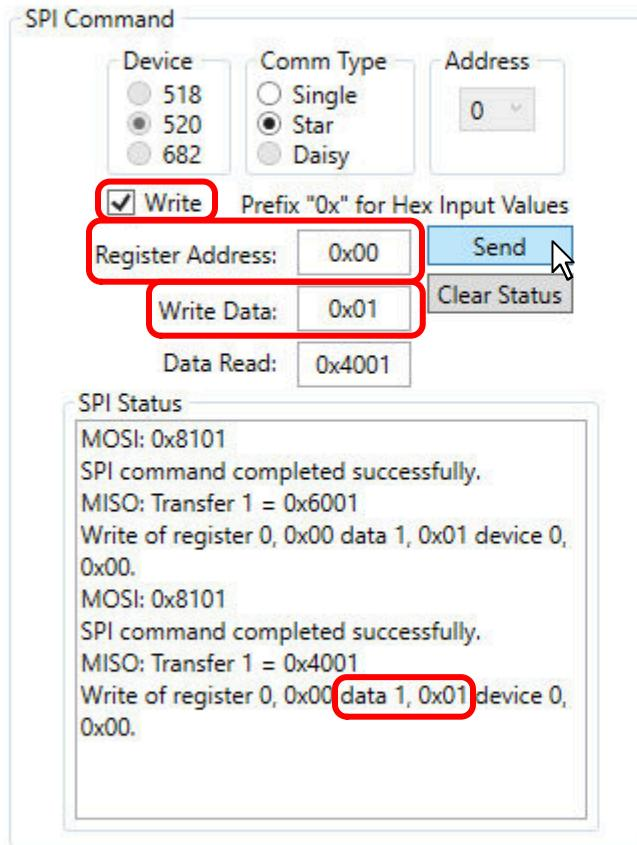

Figure 5-10. SPI Write Example
- Write the desired data in the box next to **Write Data**: as shown in Figure 5-10.